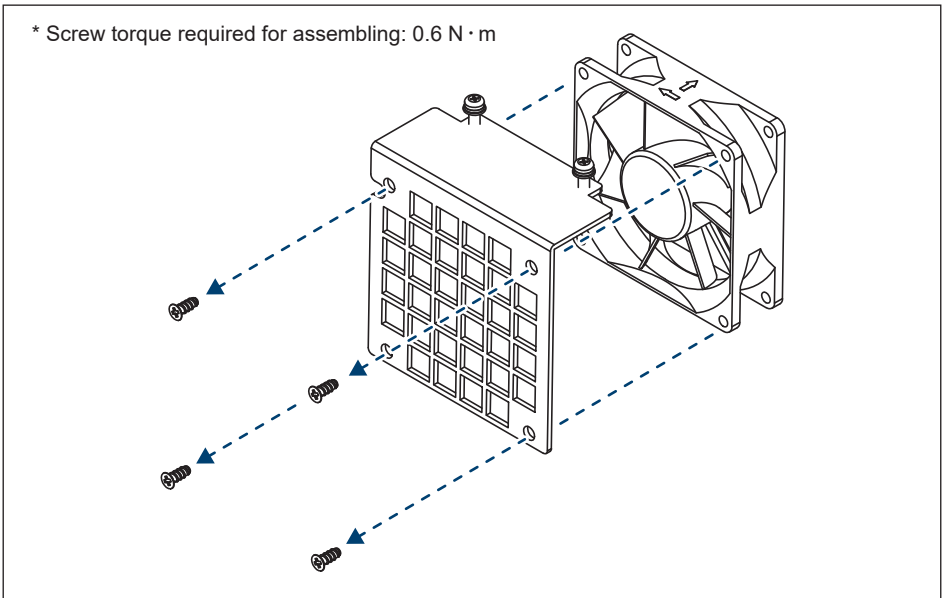

Figure 5-14: Replace with a new fan
- (3) Lift the entire fan assembly. (**Figure 5-14**)
- (4) Clean assembly or replace with a new fan.
- (5) Reassemble by using $0.8 \text{ N} \cdot \text{m}$ tightening torque.